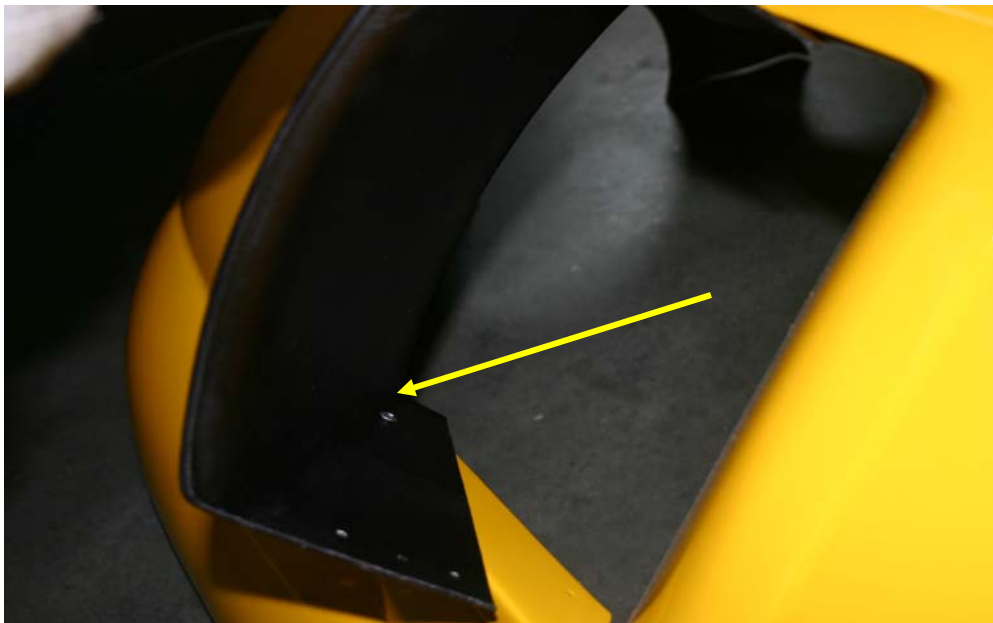

FIGURE 4 - Test Fit of the Cowl Flaps
13. Attach the Cowl Flaps (SC53032-001 or PC53005-001 and SC53032-002 or PC53005-002) into the appropriate frames using two (2) AN526C632R6 (screw), four (4) AN960-6L (washer) and two (2) AN363-632 (high temp. lock nut) in the pre-drilled holes in the cowl flap frame. Do not set the position of the cowl flap at this time. Allow the cowl door to move freely in the frame. Refer to Figure 4.